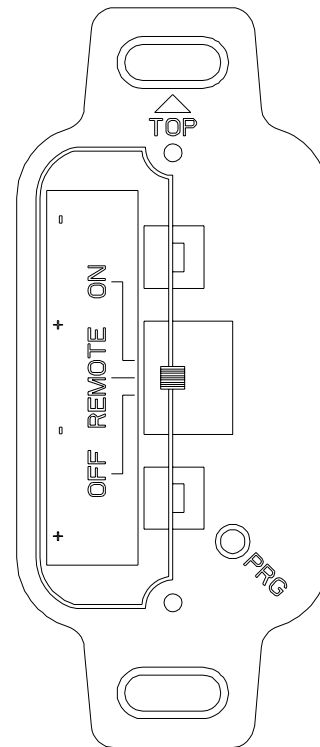

Figure 8.4. Burner control switch and remote initialization button.
3. Press the black initialization button (PRG) at the lower right of the battery box faceplate (fig. 8.4, page 27). The board will “beep” three times signalling a 10-second synchronization time limit.